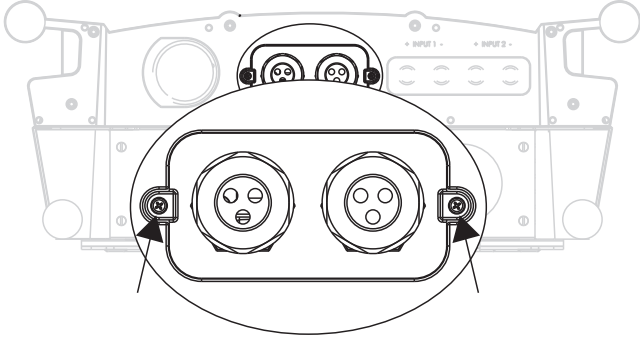

Figure 7-1: Communication module
- Loosen the Phillips screws at both sides of the front plate (see figure 7-1).
- Fix the Phillips screws at both sides of the front plate (see figure 7-1).